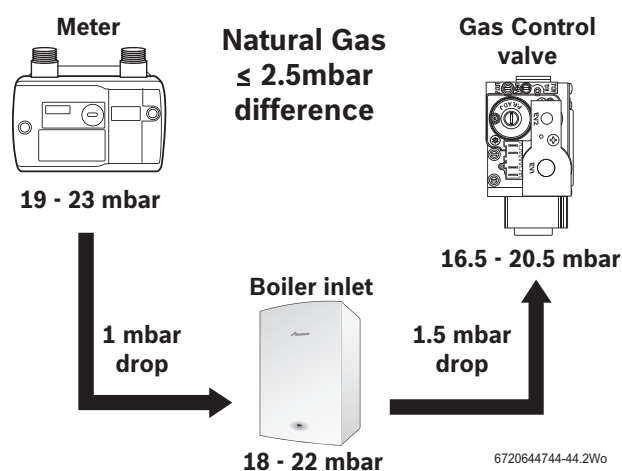
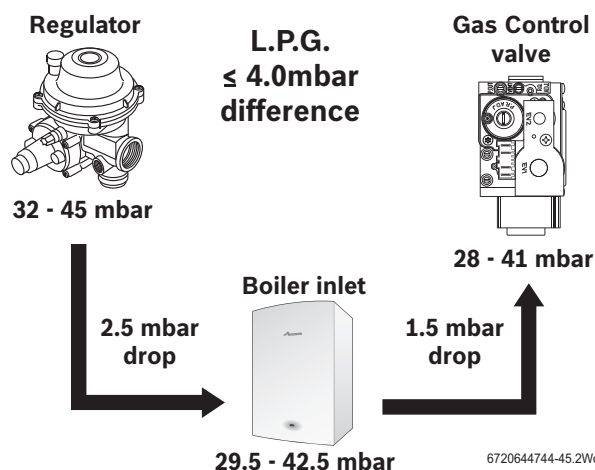

Fig. 58 Natural gas pressures
Fig. 59 L.P.G. pressures
- ▶ Check the gas supply working pressure at the gas valve conforms to values shown in Fig. 58 or Fig. 59.